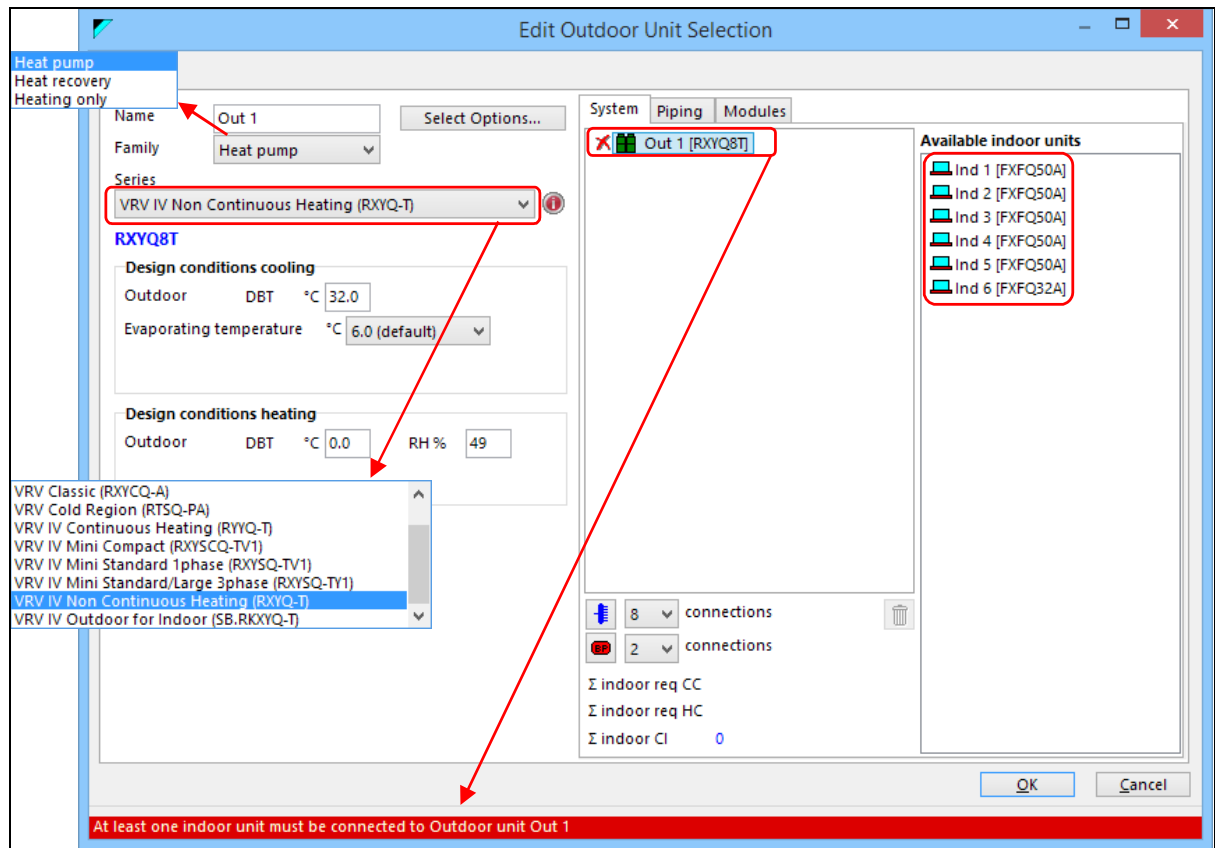

Figure 30: The outdoor edit window
Clicking the green icon at the top in the middle of the tab, brings up the (air-cooled) outdoor unit edit windows as shown in Figure 30:
- Within the selected family, several **series** may be available. In Figure 30, the heat pump family has eight series: VRV Classic (RXYCQ-A), VRV Cold Region (RTSQ-PA), VRV IV Continuous Heating (RYYQ-T) and so on. A series has a number of models, allowing you defining a small system containing a few indoor units or a considerable system with up to 64 indoor units of different sizes.
- There are no indoor units connected yet to the outdoor unit. VRV\_Xpress finds the smallest available outdoor unit in the selected family and series (RYYQ8T), but also marks it with a red cross to indicate a problem. Selecting the outdoor unit will show a message at the bottom of the window explaining the problem, as shown in Figure 30.